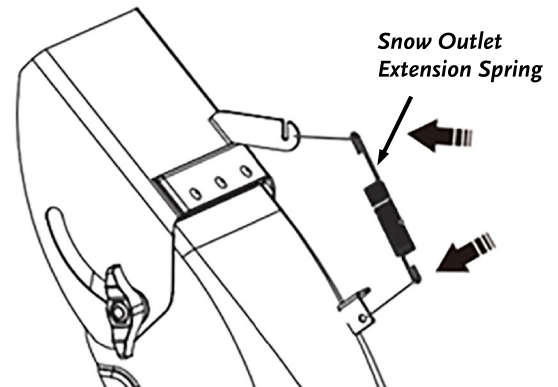

Figure 15
5. Install long end of Snow Outlet Extension Spring into upper slot and the short end into the lower slot (**Figure 15**).